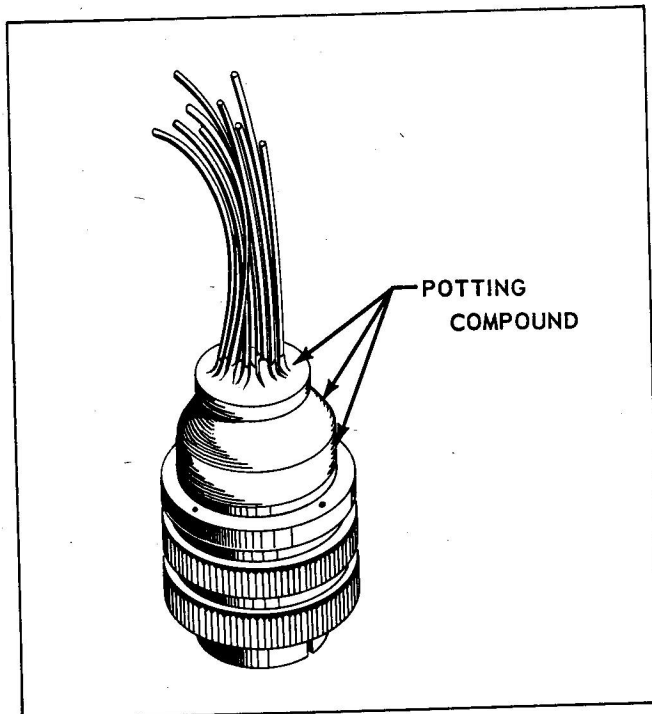

Figure 3-8. Potted Connector
a. Numbers 54A3A224 and 54A3A225. See Figure 3-8. These connectors are used only where potting is required: similar to AN types, except they have a shorter body shell or are of split shell construction.